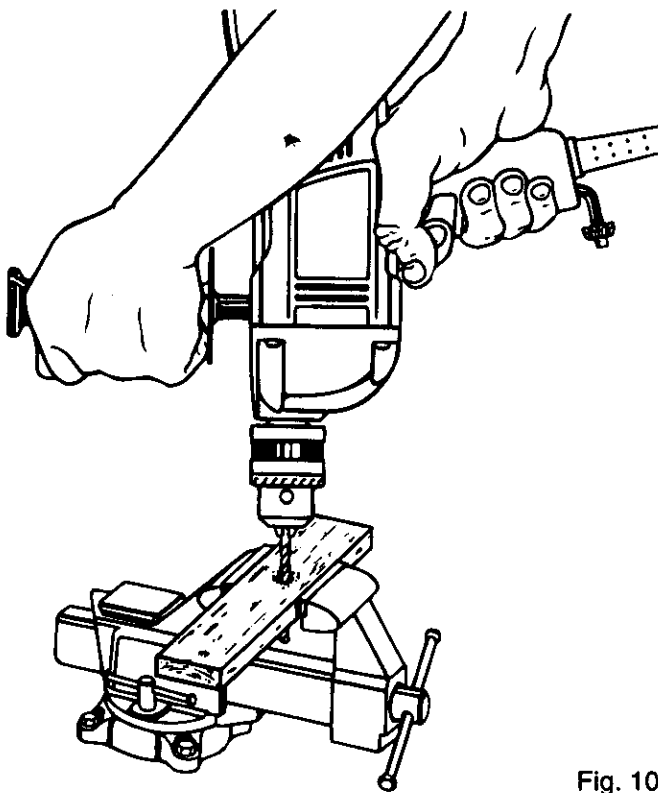

Fig. 10
See Figure 10.
- Move the drill bit into workpiece applying only enough pressure to keep the bit cutting. Do not force your drill or apply side pressure to elongate a hole. Let your drill and bit do the work. See Figure 10.